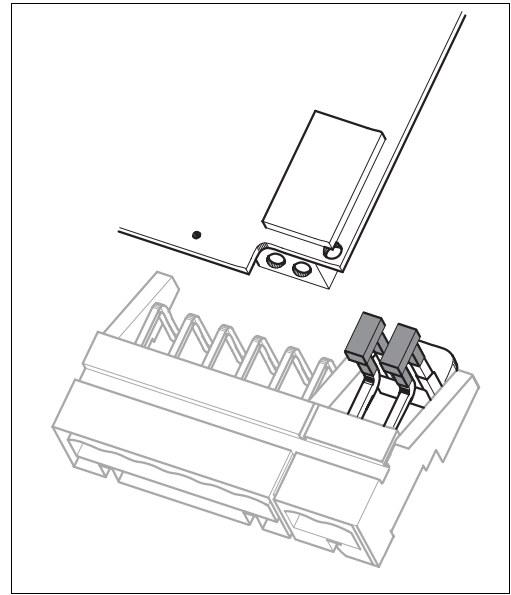

Fig. 29: pH input module in the housing cover with jumper for connecting ISFET sensors
6. Attach the jumpers supplied as illustrated in Fig. 29.